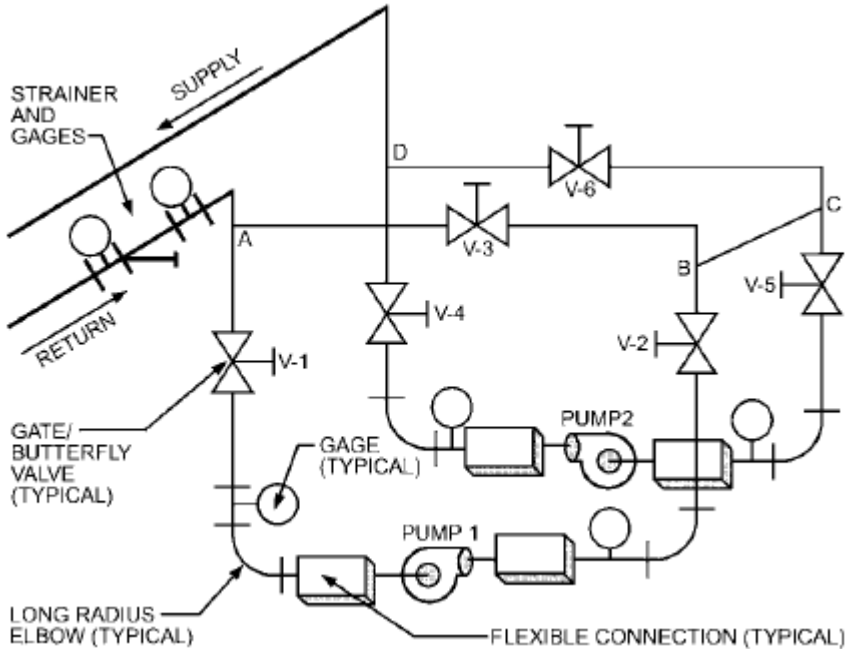

Figure 34 Typical Piping for Series Pumps
- Piping for series pumps should allow running either pump (Figure 34).